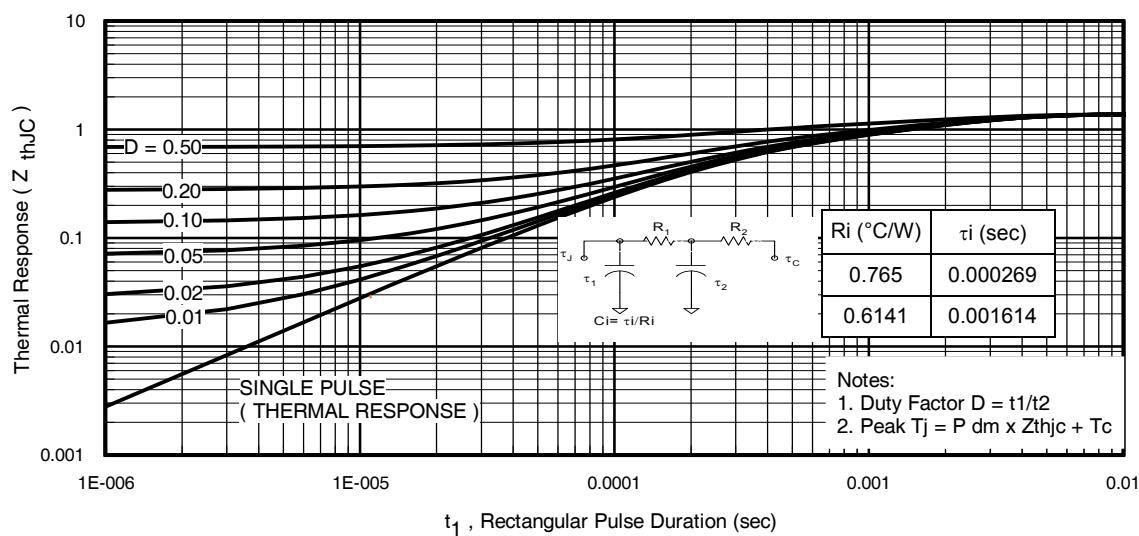

Fig 11. Maximum Effective Transient Thermal Impedance, Junction-to-Case
- ① Repetitive rating; pulse width limited by max. junction temperature. (See fig. 11)
- ② Limited by $T_{J\max}$, starting $T_J = 25^\circ\text{C}$, $L = 0.089\text{mH}$, $R_G = 25\Omega$, $I_{AS} = 36\text{A}$, $V_{GS} = 10\text{V}$. Part not recommended for use above this value.
- ③ Pulse width $\leq 1.0\text{ms}$; duty cycle $\leq 2\%$.
- ④ $C_{oss\ eff.}$ is a fixed capacitance that gives the same charging time as C_{oss} while V_{DS} is rising from 0 to 80% V_{DSS}